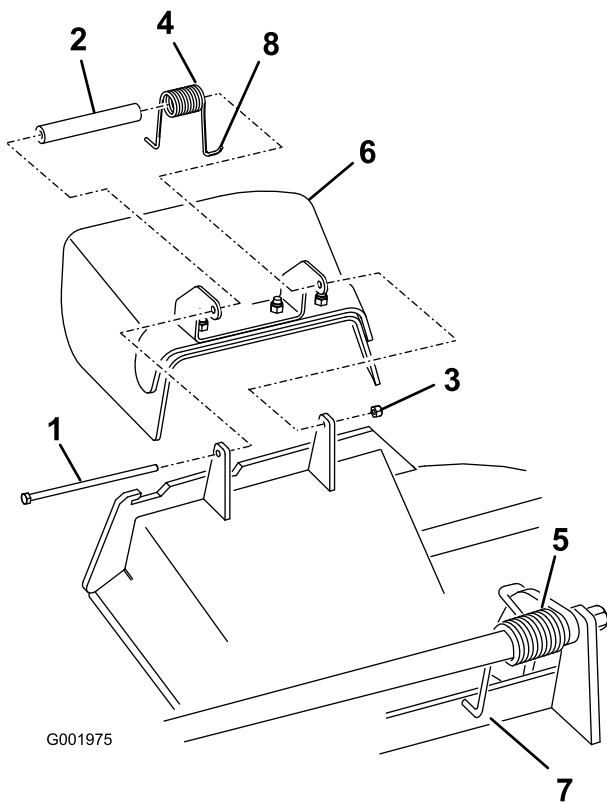

Figure 80
1. Remove the locknut, bolt, spring and spacer holding the deflector to the pivot brackets (Figure 80). Remove damaged or worn grass deflector.
Note: Make sure the L end of spring is installed behind deck edge before installing the bolt as shown in Figure 80.
- Install bolt and nut. Place the **J** hook end of spring around grass deflector (Figure 80).